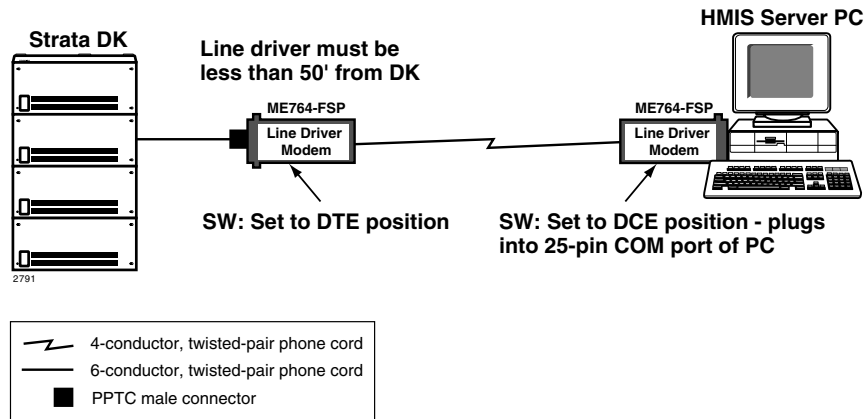

Figure 55 Connecting Strata DK to a HMIS Server PC more than 50 feet away
- ♦ An HMIS server PC more than 50 feet away (see Figure 55 below).